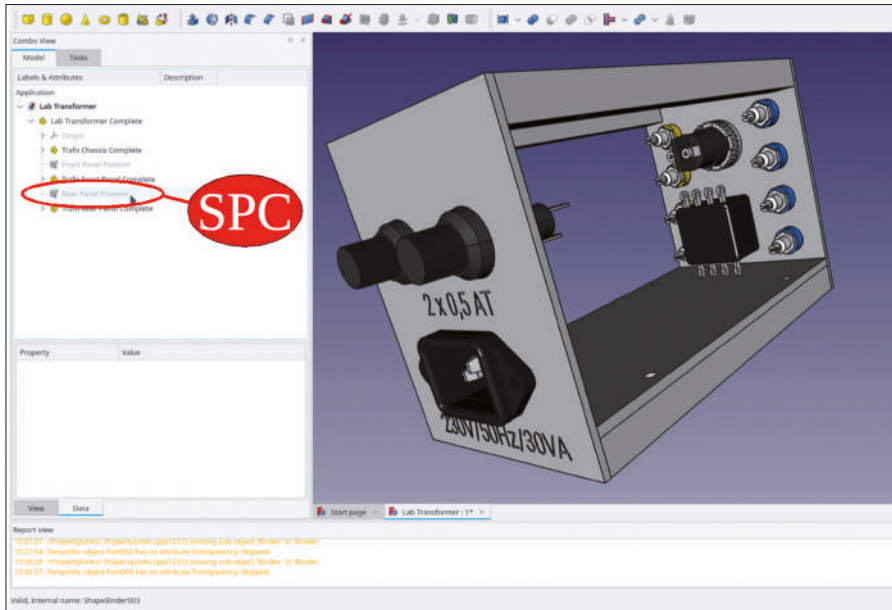

Figure 9-83
14. In the tree view, hide the shape binder 'Rear Panel Position' (Figure 9-83).